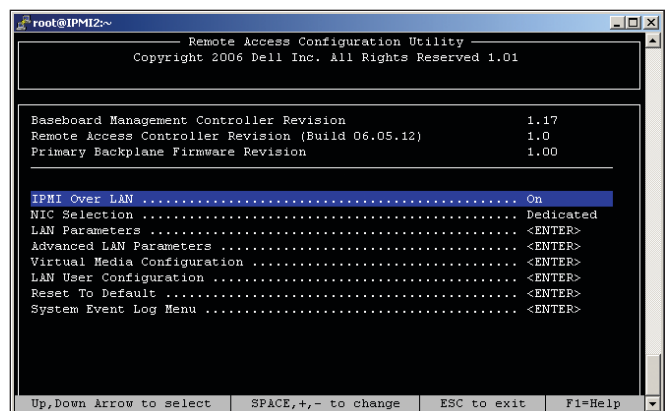

Figure 1. Remote Access Configuration Utility for ninth-generation Dell PowerEdge servers
1. Set the IPMI Over LAN option to On and the NIC Selection option to Shared, Failover, or Dedicated (see Figure 1).